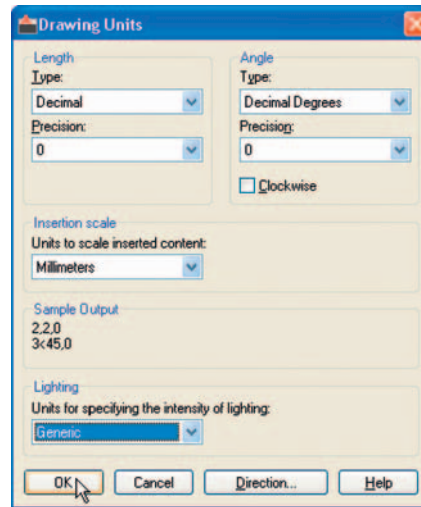

Fig. 1.27 Setting Units to 0
- In the command palette *enter* **units** and *right-click*. The **Drawing Units** dialog appears (Fig. 1.27). In the **Precision** popup list of the **Length** area of the dialog, *click* on **0** and then *click* the **OK** button. Note the change in the coordinate units showing in the status bar.